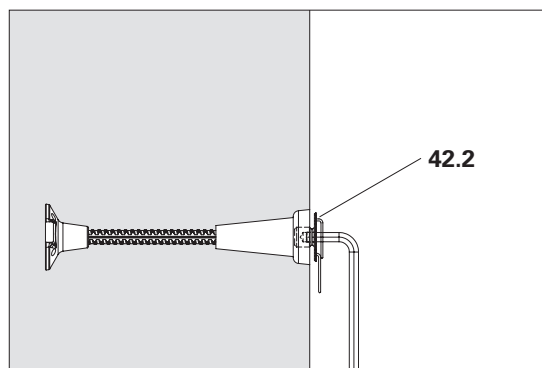

Fig. D3.03
5. Remove Anchor Positioning Stud M30 (**42.2**) using Allen key AF 14. (Fig. D3.03)